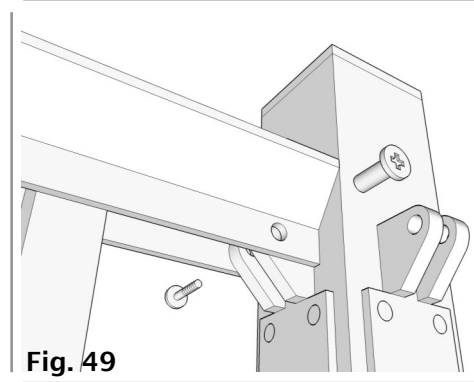
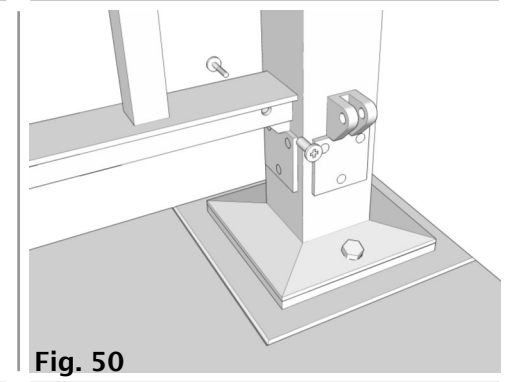

Fig. 49
Fig. 50
**23.** Drill 7/32" diameter holes through the railing mounting hardware attached to the post, and insert Rail Fasteners through the holes in the Railing and post mounted hardware at the top of the Post (Fig. 49), and at the bottom of the Post (Fig. 50).